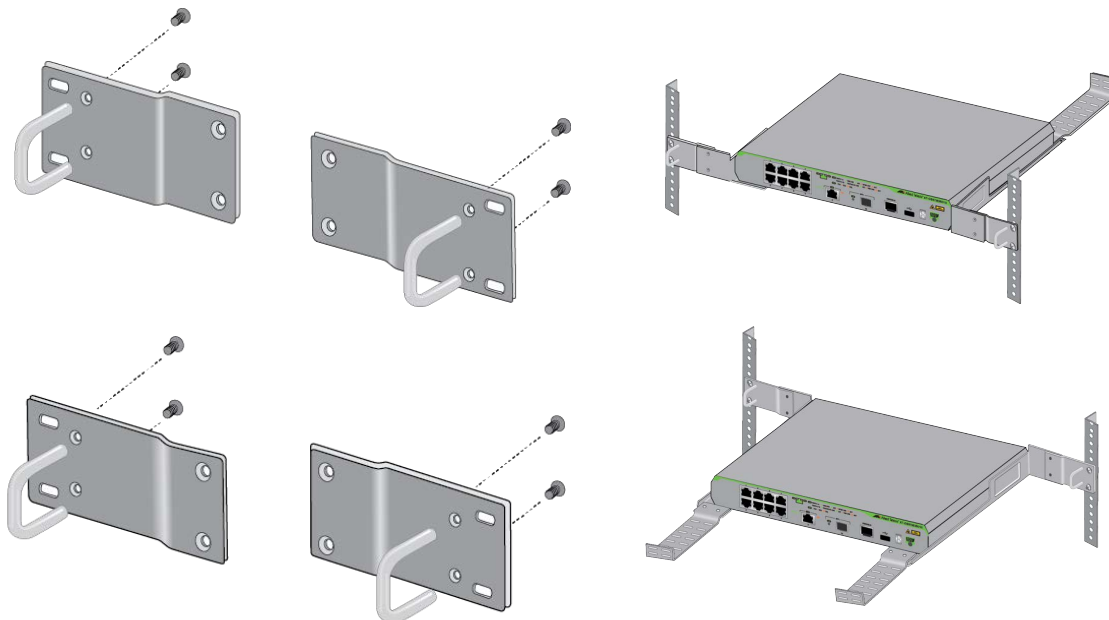

Figure 30. Attaching the RKMT-J05 Handles to the Short Brackets
3. Attach the handles in the RKMT-J05 kit to the short brackets using the supplied M3x6mm pan head screws and a Phillips-head screwdriver. Be sure to attach the handles to the correct sides of the short brackets for your switch-brackets configuration. Refer to Figure 30. The handles are optional.